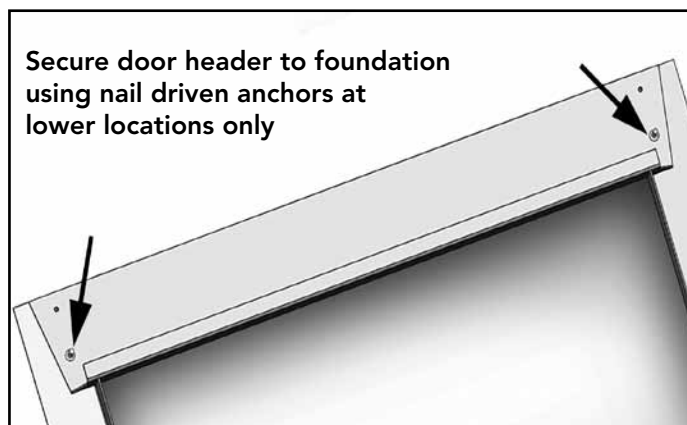
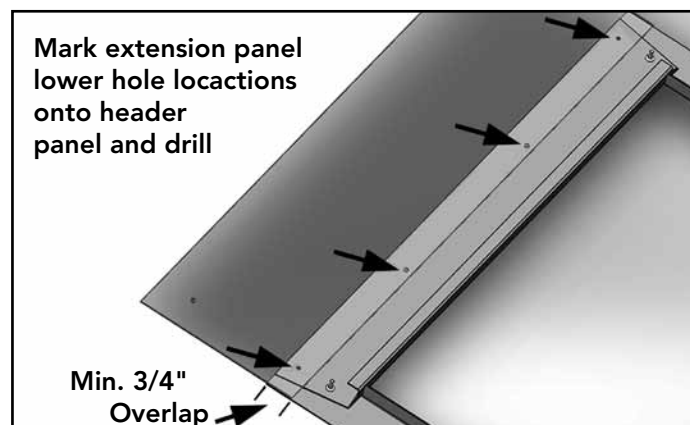

Figure 1
Figure 2
1. Follow the BR Basement Door Installation Instructions to position and secure the door frame to the foundation. **IMPORTANT:** Leave enough room at the top of the foundation opening for the header panel and only secure the header to the foundation at the two lower locations as shown in Figure 1 using nail driven anchors. The extension panel must overlap the header panel by at least 3/4" as shown in Figure 2.
2. Position the extension panel on top of the header panel and areaway as shown in Figure 2. Mark the extension panel's lower hole locations onto the header panel and drill holes using a 9/32" drill bit.